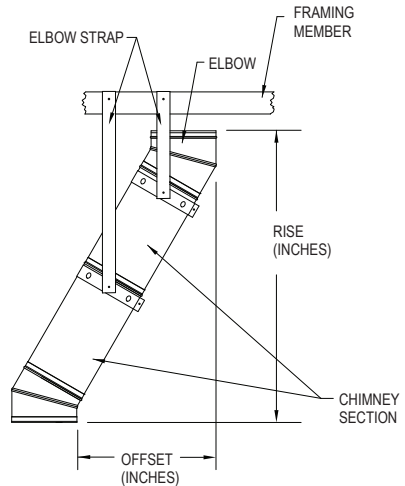

Figure 15
1. Attach Elbows: Attach Elbow to Chimney Section or other Elbow by mating the male and female ends with each other and using the (6) sheet metal screws provided. Attach one Elbow to the Chimney Section below, and align it for the offset. Refer to **Table 3** to determine the required offset length and attach an appropriate length (or lengths) of Chimney Section(s) above the Elbow. For each Chimney Section in the offset, an Elbow Strap must be used to support the weight of that pipe section. No more than half of the total chimney run can be between the elbows (inclined); this is to ensure the chimney drafts properly (e.g. if the total chimney run is 20-ft, no more than 10-ft is allowed to be between the elbows). Attach the second Elbow above the Chimney Section to complete the offset (**Fig 15**).
2. Secure Offset: Place the Elbow Strap's band around the angled portion of the top Elbow, then tighten the nut and bolt until the clamp is firm. Wrap the Elbow Strap end over an adjacent joist or rafter and secure it with at least two 8-penny nails or #8, 1-1/2" screws. Do not add more Chimney Sections until the Elbows are supported. Be sure that the chimney remains vertical (**Fig 15**).